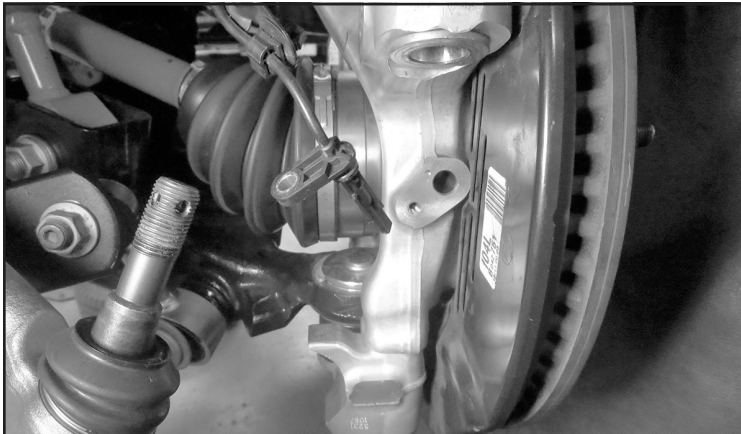

FIGURE 2 - STEP 3
3. Disconnect the wheel speed sensor from the knuckle. Save hardware. SEE FIGURE 2